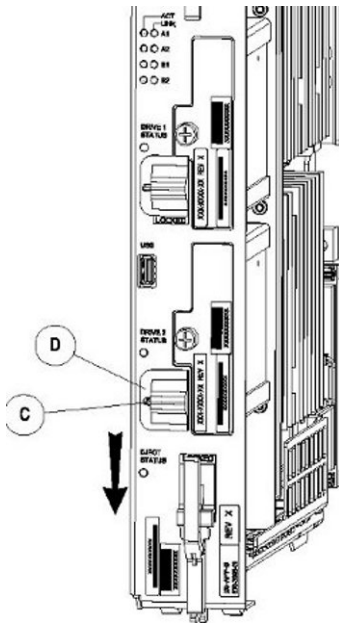
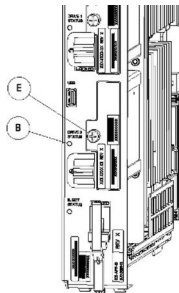

Figure 47: Drive Module UNLOCKED
Figure 48: Drive Module Status
2. Move drive module locking switch (D) from the LOCKED to the unlocked position and wait for the LED (B) to indicate a steady red state. See Figure 47: Drive Module UNLOCKED and Figure 48: Drive Module Status, respectively.
4. Loosen the drive module screw (E) (see Figure 48: Drive Module Status).